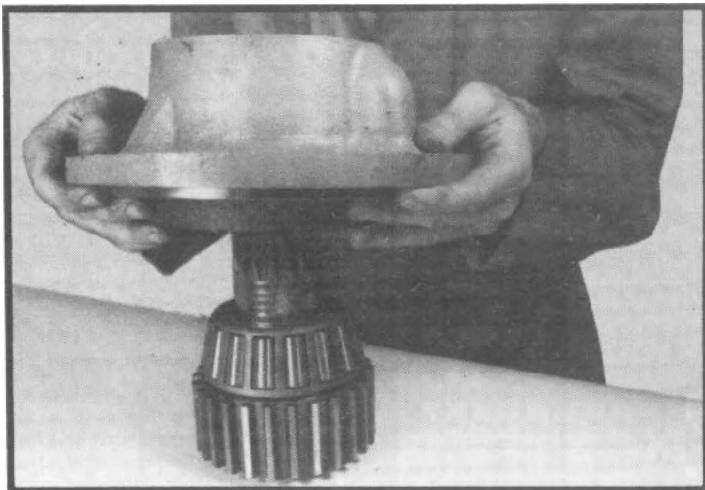

Fig. 186
20. Press roller bearing onto output shaft insert PTO/declutch carrier onto output shaft. (See fig. 186)